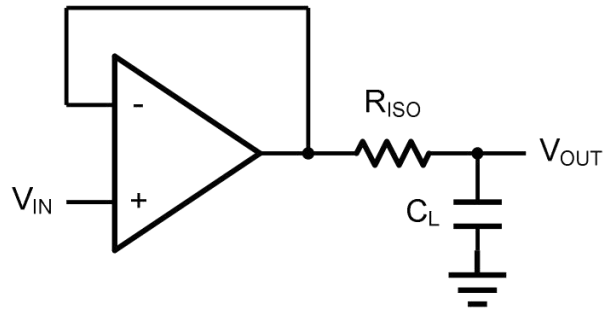
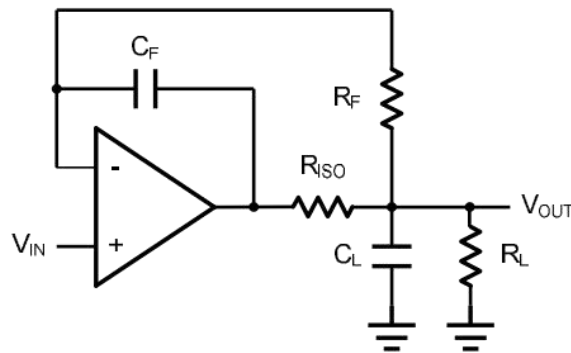

Figure 2. Indirectly Driving a Capacitive Load Using Isolation Resistor
Figure 3. Indirectly Driving a Capacitive Load with DC Accuracy
The OPA314/2314/4314 family is optimized for bandwidth and speed, not for driving capacitive loads. Output capacitance will create a pole in the amplifier's feedback path, leading to excessive peaking and potential oscillation. If dealing with load capacitance is a requirement of the application, the two strategies to consider are (1) using a small resistor in series with the amplifier's output and the load capacitance and (2) reducing the bandwidth of the amplifier's feedback loop by increasing the overall noise gain. Figure 2. shows a unity gain follower using the series resistor strategy. The resistor isolates the output from the capacitance and, more importantly, creates a zero in the feedback path that compensates for the pole created by the output capacitance.
The circuit in Figure 3 is an improvement to the one in Figure 2. R_F provides the DC accuracy by feed-forward the V_{IN} to R_L. C_F and R_{ISO} serve to counteract the loss of phase margin by feeding the high frequency component of the output signal back to the amplifier's inverting input, thereby preserving the phase margin in the overall feedback loop. Capacitive drive can be increased by increasing the value of C_F. This in turn will slow down the pulse response.